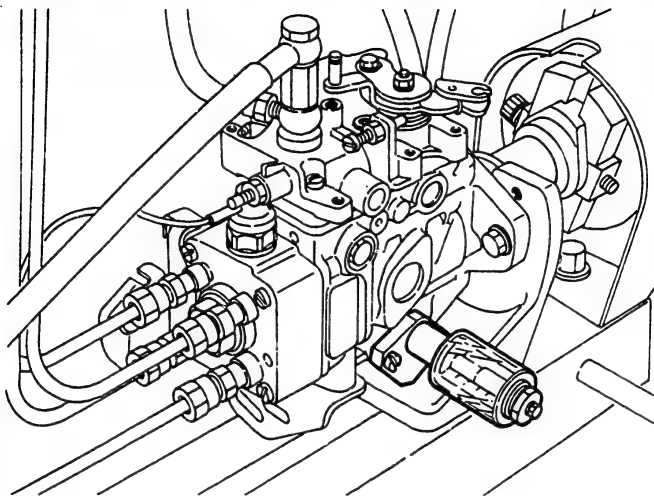

Fig. 170 Preparation
1. Install the measuring device (1 688 130 139) to the timer's high pressure side (Fig. 170)